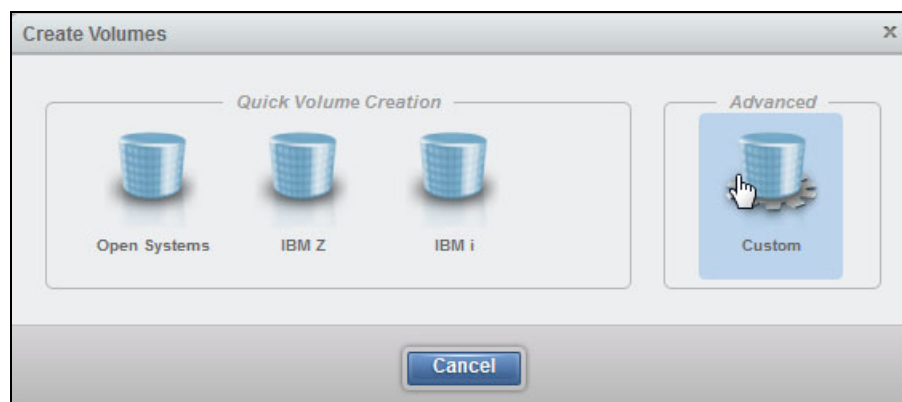

Figure 11-53 Create Open Systems (FB) Volumes Advanced
1. From the **Create Volumes** window, select **Advanced (Custom)**, as shown in Figure 11-53.